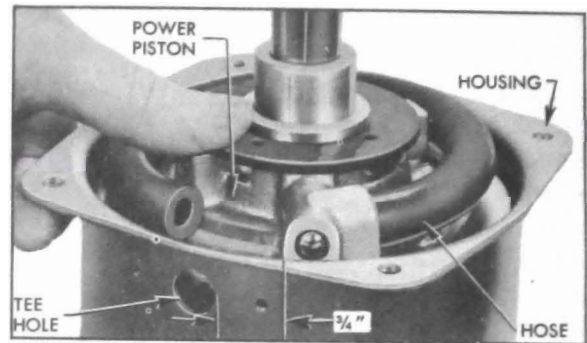

Figure 9-27—Position of Piston in Housing
19. Remove cardboard retainer ring and place power piston with attached parts on the large return spring so that the bent end of spring wire rests between two of the round bosses on piston guide. Locate the piston so that when it is pressed into housing the side of boss opposite the vacuum hose clears the vacuum tee hole in housing by approximately $\frac{3}{4}$ ". See figure 9-27.